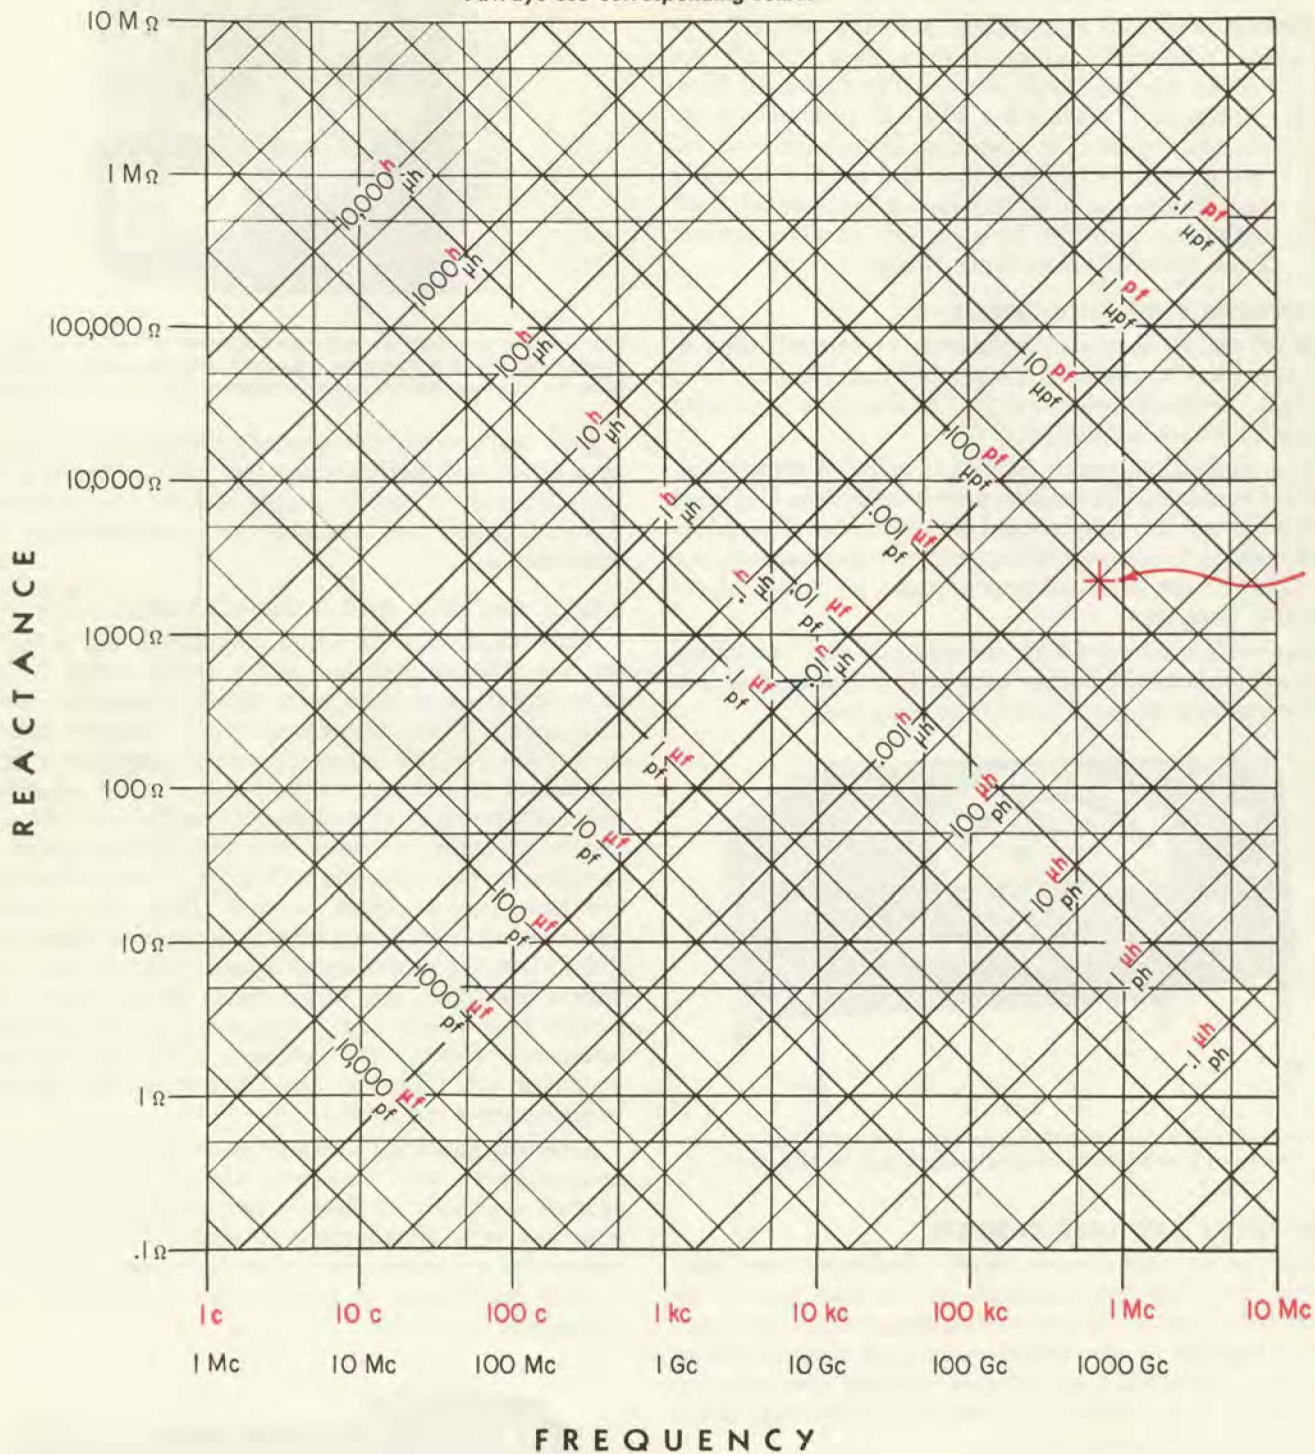
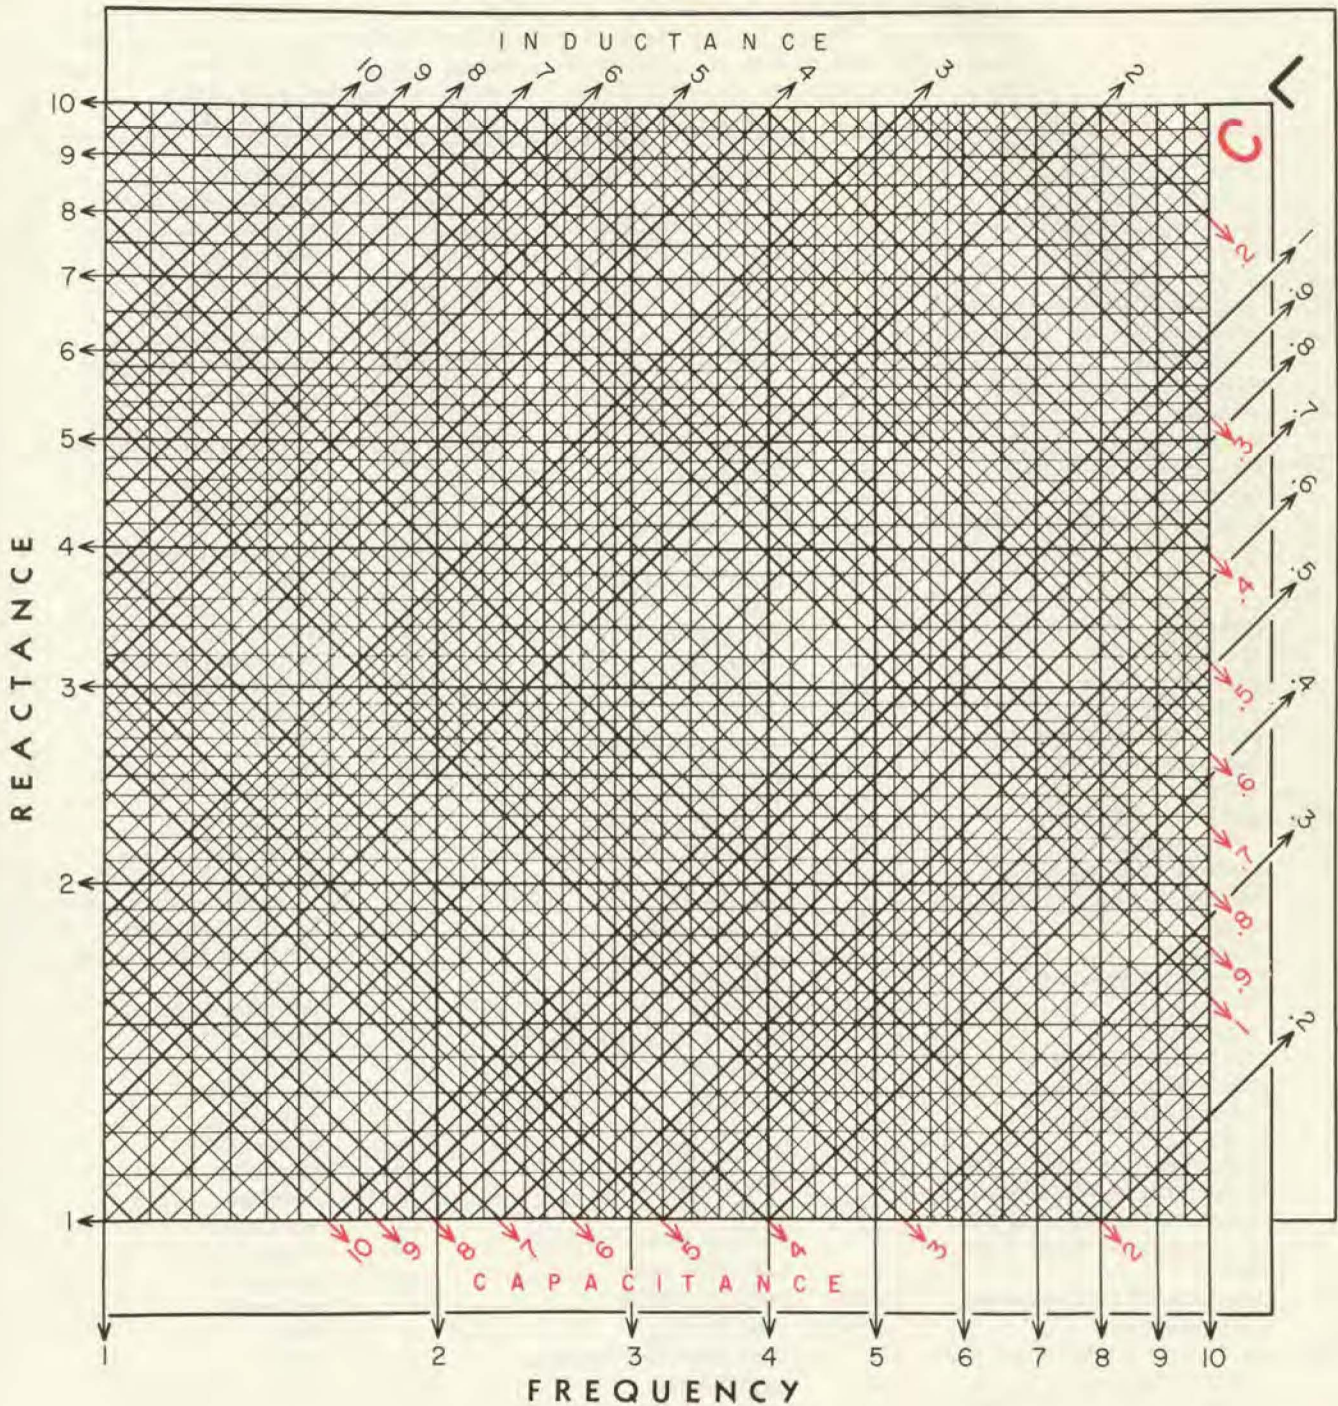

FIGURE 1
FIGURE 2
Figure 1 is the complete chart, used for rough calculations. Figure 2, which is a single decade of Figure 1 enlarged approximately 7 times, is used where two or three significant figures are to be determined.
Always obtain approximate value from Figure 1 before using Figure 2
*Example:* The point indicated in Figure 1 corresponds to a frequency of about 700 kc and an inductance of 500  $\mu$ h, or a capacitance of 100 pf, giving in either case a reactance of about 2000 ohms. The resonant frequency of a circuit containing these values of inductance and capacitance is, of course, 700 kc, approximately.
**USE OF FIGURE 2** Figure 2 gives additional precision but does not place the decimal point, which must be located from a preliminary entry on Figure 1. Since the
chart necessarily requires two logarithmic decades for inductance and capacitance for every single decade of frequency and reactance, unless the correct decade for  $L$  and  $C$  is chosen, the calculated values of reactance and frequency will be in error by a factor of 3.16. In Figure 2, the capacitance scale is red; inductance scale is black.